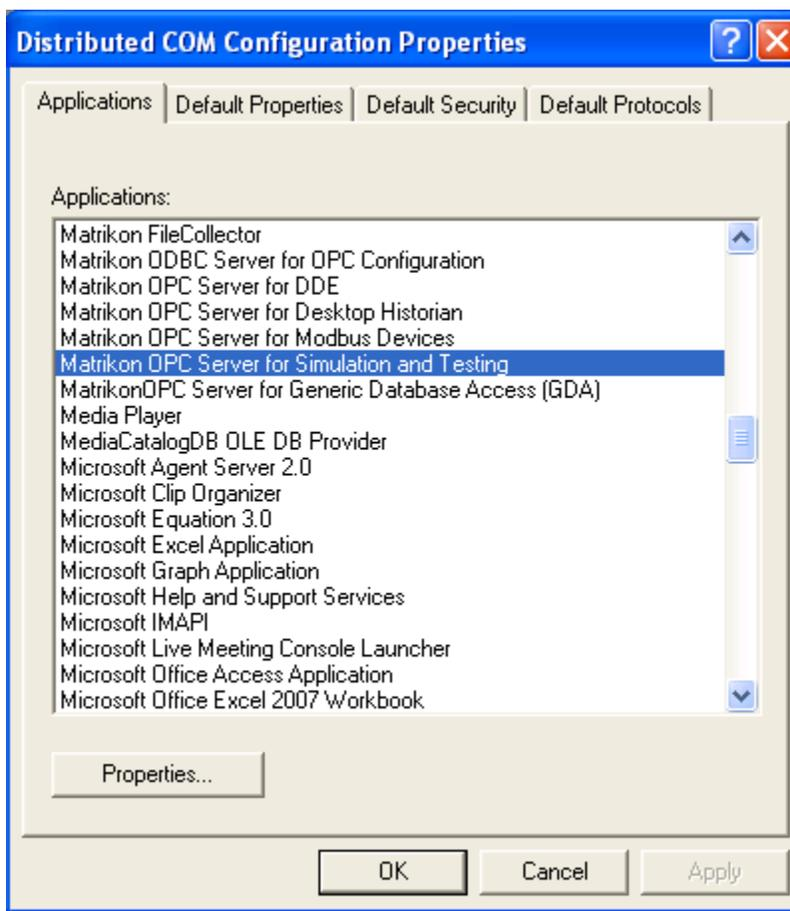

Figure 36 - Distributed COM Configuration Properties Window
3. The **Distributed COM Configuration Properties** window (Figure 36) appears.